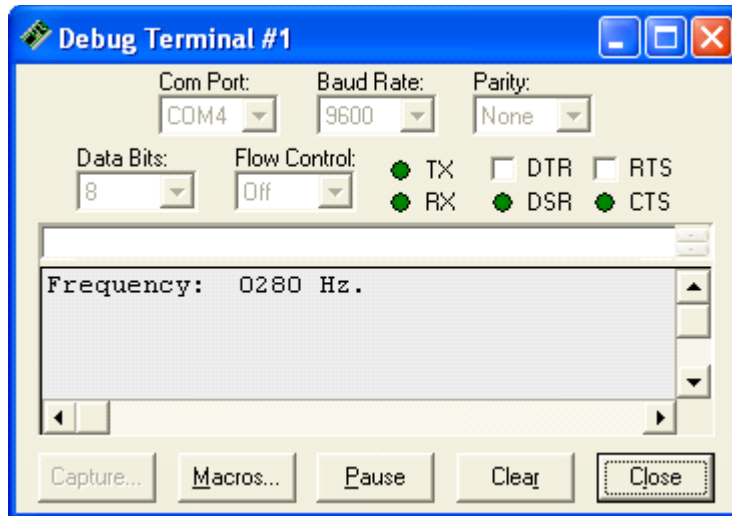

Figure 6-8
When you run the program, and adjust pot B to its maximum, the output should be somewhere in the neighborhood of the frequency shown in Figure 6-8.
3. For the circuit in Figure 6-8, what resistance value does the pot have to be to make the astable multivibrator circuit generate a 2 kHz signal? This requires some algebra.